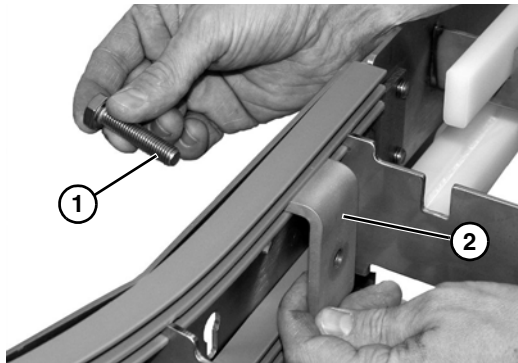

Figure 40
1. Remove the hex head bolt (**Figure 40, item 1**) retaining the wear strip support bracket (**Figure 40, item 2**) from both ends of curve conveyor (for conveyors 4" - 10" wide only).